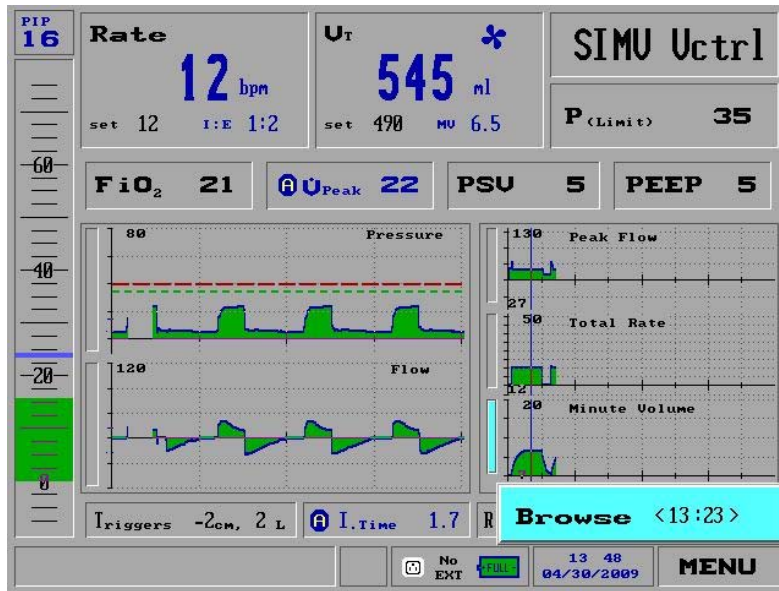

Figure 109: The Browse Trends Pop-Up Window
3. A small blue selected option marked **Browse** appears, with the time and graph's cursor in center of the viewable data (Figure 109)